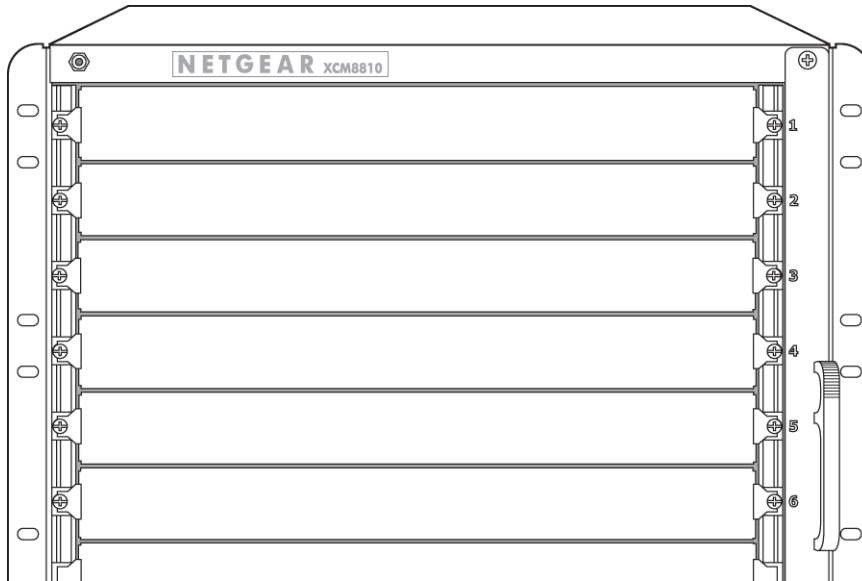

Figure 38. Blank front panels in an 8800 Series Chassis
2. Align the blank front panel over the open slot on the chassis (see Figure 38).